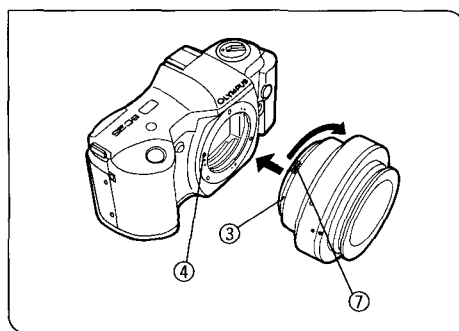

Fig. 43
3. Aligning the red dot ④ on the SC35 camera and the red dot ③ on the OM mount of the OM camera adapter, insert the OM mount into the camera and turn it clockwise until a click is heard. (Fig. 43)
⊙ To detach the mount from the single-lens reflex camera, rotate the camera counterclockwise while pressing down the button ⑦ on the mount. (Fig. 43)